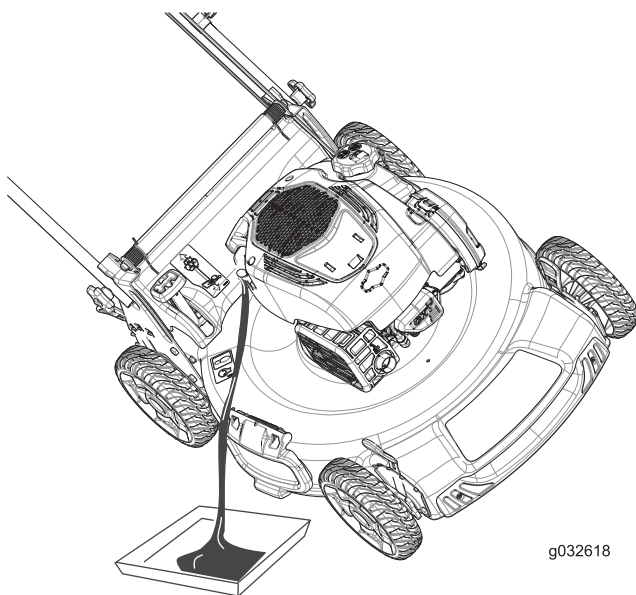

Figure 31
3. Tip the machine onto its side with the air filter up to drain the used oil out through the oil-fill tube (Figure 31).